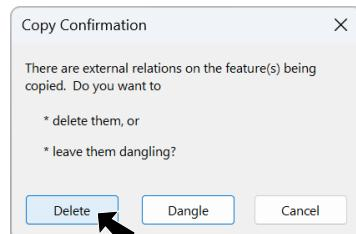

Fig. 18
Step 4. In the Copy Conformation dialog box click **Delete**, Fig. 18.